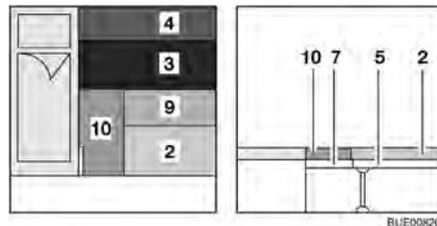

Fig. 94 After conversion
- Place the seat cushion (Fig. 94,3) in the centre.
- Insert the back cushion (Fig. 94,4) between the seat cushion (Fig. 94,3) and the wall.
- Place the seat cushion (Fig. 94,2) against the wall.
- Place the additional cushion (Fig. 94,9) between the seat cushions.
- Lay the additional cushion (Fig. 94,10) next to the bed.